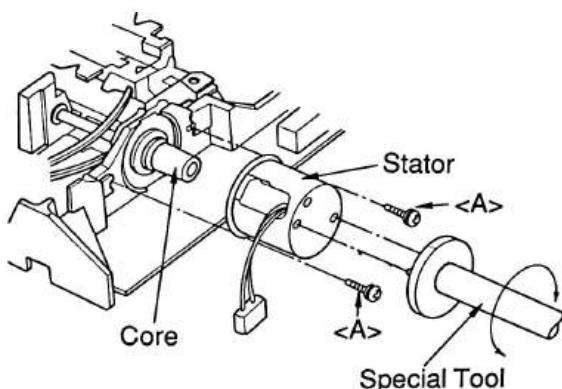

Figure 5
- 1) Remove two screws <A> from the head spacing motor stator, then remove the stator as shown in Figure 5.
- 2) Remove the core with the spiral shaft from the chassis frame while rotating it in a clockwise direction as shown in Figure 5.